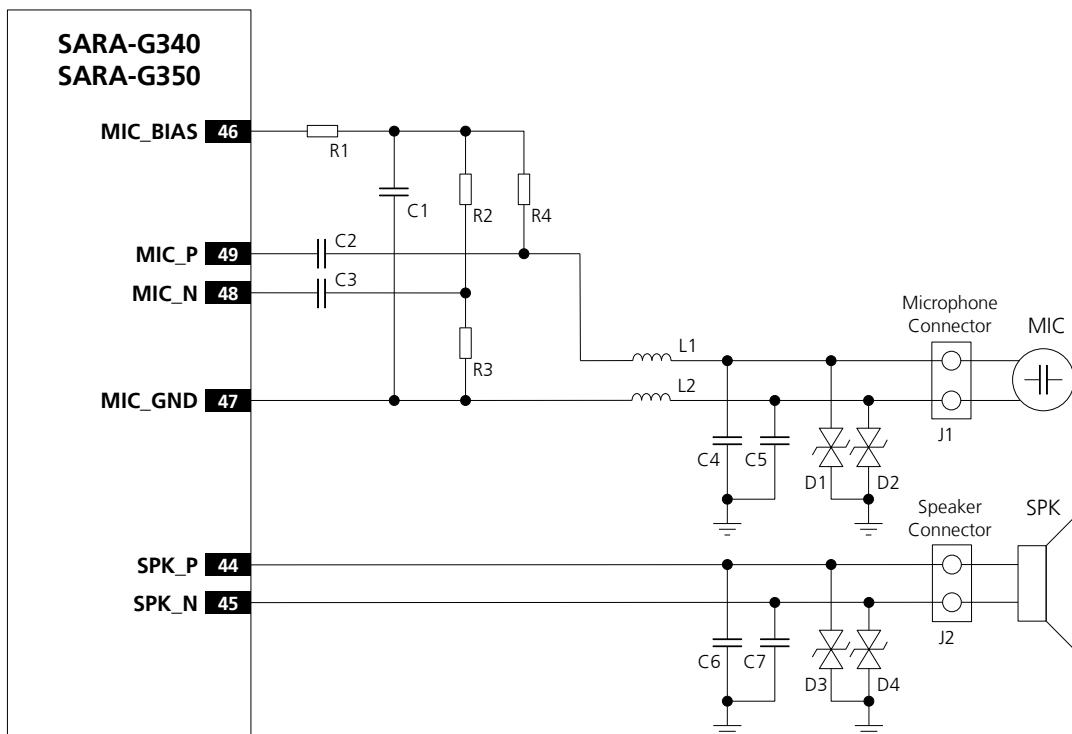

Figure 83: Analog audio interface headset and handset mode application circuit
Figure 83 shows an application circuit for the analog audio interface in headset and handset modes, connecting a  $2.2\text{ k}\Omega$  electret microphone and a  $16\text{ }\Omega$  receiver / speaker:
As in the example circuit in Figure 83, follow the general guidelines for the design of an analog audio circuit for both headset and handset modes:
- Provide an appropriate series capacitor at both **MIC\_P** and **MIC\_N** analog uplink inputs for DC blocking (as the  $C2$  and  $C3$   $100\text{ nF}$  Murata GRM155R71C104K capacitors in Figure 83). This provides a high-pass filter for the microphone DC bias with a corresponding cut-off frequency according to the value of the resistors of the microphone supply circuit. Then connect the signal lines to the microphone.
- Mount an  $82\text{ nH}$  series inductor with a Self-Resonance Frequency  $\sim 1\text{ GHz}$  (e.g. the Murata LQG15HS82NJ02) on each microphone line ( $L1$  and  $L2$  inductors in Figure 83).
- Mount a  $27\text{ pF}$  bypass capacitor (e.g. Murata GRM1555C1H270J) from each microphone line to solid ground plane ( $C4$  and  $C5$  capacitors in Figure 83).
- Mount a 27 pF bypass capacitor (e.g. Murata GRM1555C1H270J) from each speaker line to solid ground plane (C6 and C7 capacitors in Figure 83).
- Provide additional ESD protection (e.g. Bourns CG0402MLE-18G varistor) if the analog audio lines will be externally accessible on the application device, according to the EMC/ESD requirements of the custom application. Mount the protection close to an accessible point of the line (D1-D4 in Figure 83).